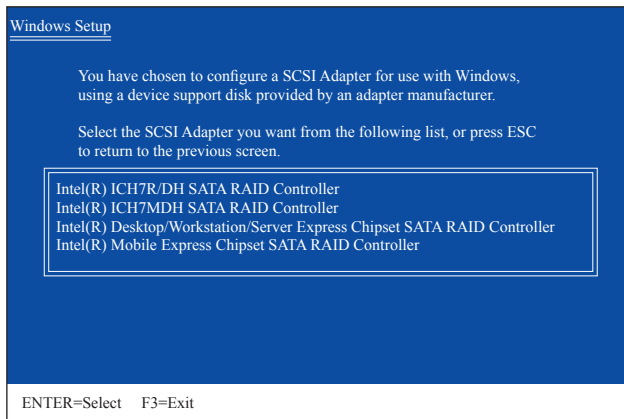

Figure 4
Insert the floppy disk containing the SATA RAID/AHCI driver and press <Enter>. Then a controller menu similar to that in Figure 4 will appear. Select **Intel(R) Desktop/Workstation/Server Express Chipset SATA RAID Controller** and press <Enter>. For AHCI mode, use the up arrow key on the keyboard to scroll to the **Intel(R) ICH10R SATA AHCI Controller** item and press <Enter>.